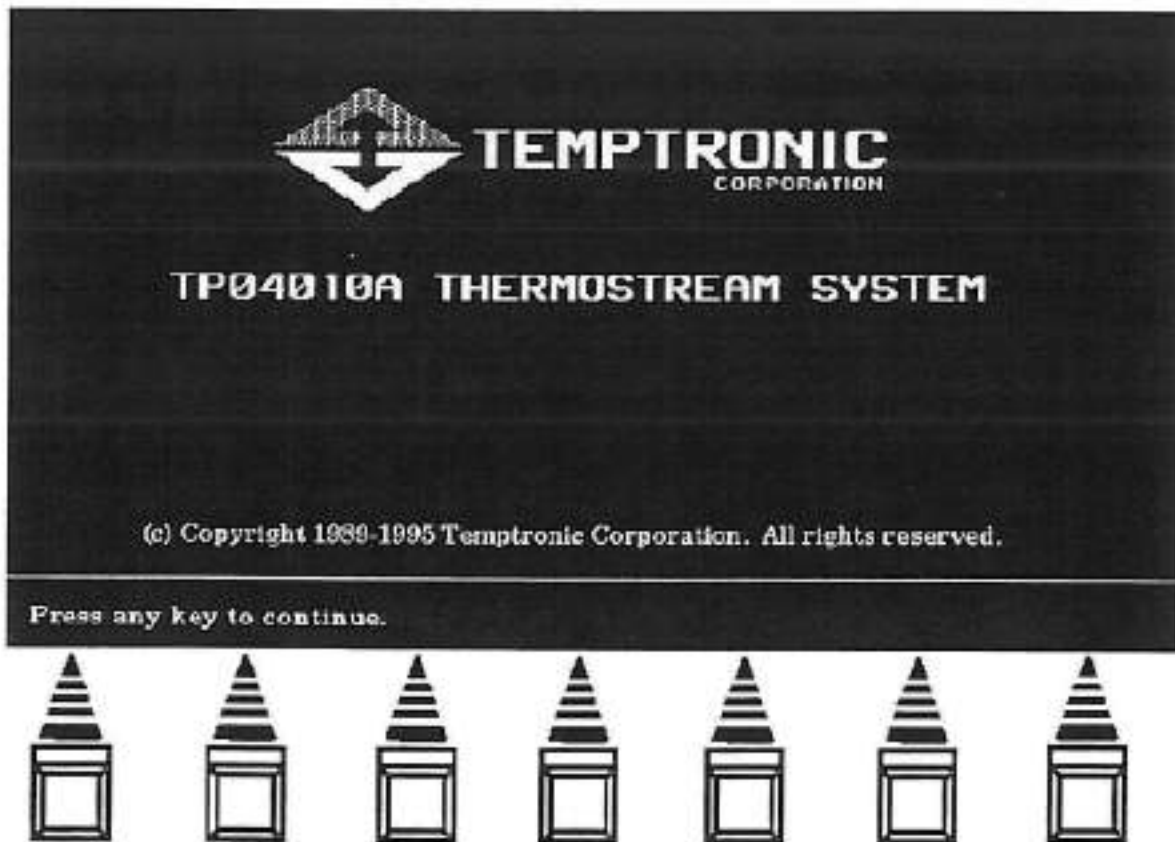

Figure 3-14. Temptronic Logo Screen
- The operator control module (OCM) will show a program status message and then several seconds later the *Temptronic Logo Screen* (see Figure 3-14) will appear. (If this screen does not appear but is replaced by a *CMOS error* or *Setup error* message, see Subsection. 5-8.)